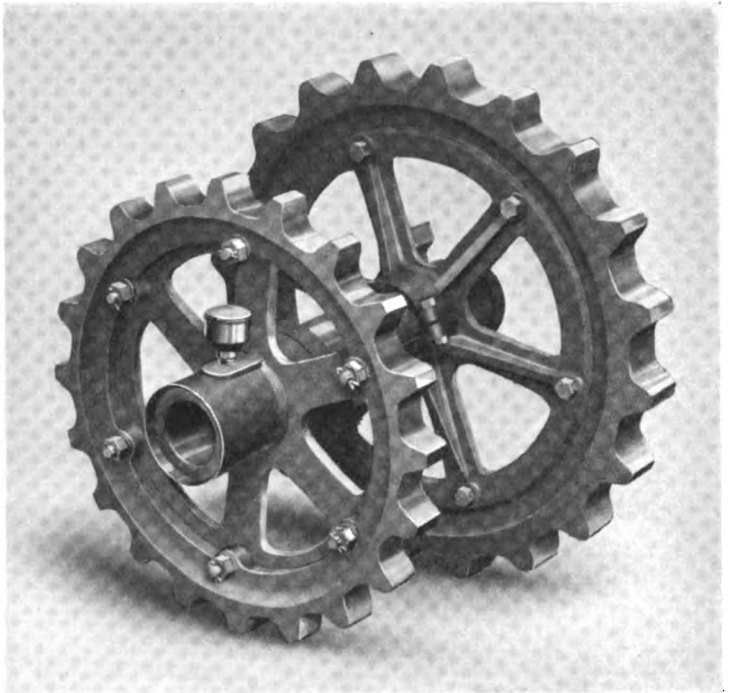

Fig. 46. Flange Journal with sprockets bolted in place
250 — Power is received from the countershaft assembly and transmitted by the first motion chain to the flange journal. The flange journal in turn transmits power to the track. Fig. 46 shows the flange journal assembly for the "75." The flange journal proper does not include the bolted-on first motion or track drive sprockets. The flange journal is different lengths, depending upon the width of track used.
- 254 — The track drive sprocket contains two sets of teeth that have different depths. An examination of the sprocket near the right edge of Fig. 46 will